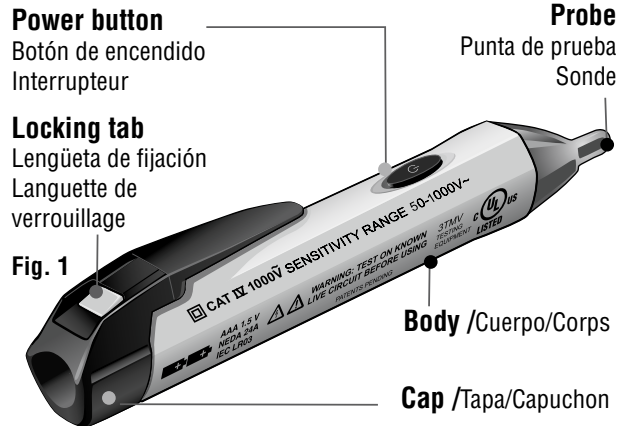

Fig. 2
- Gently depress the tab, Fig. 2, until you can slide the end-cap off the main body of the tester.